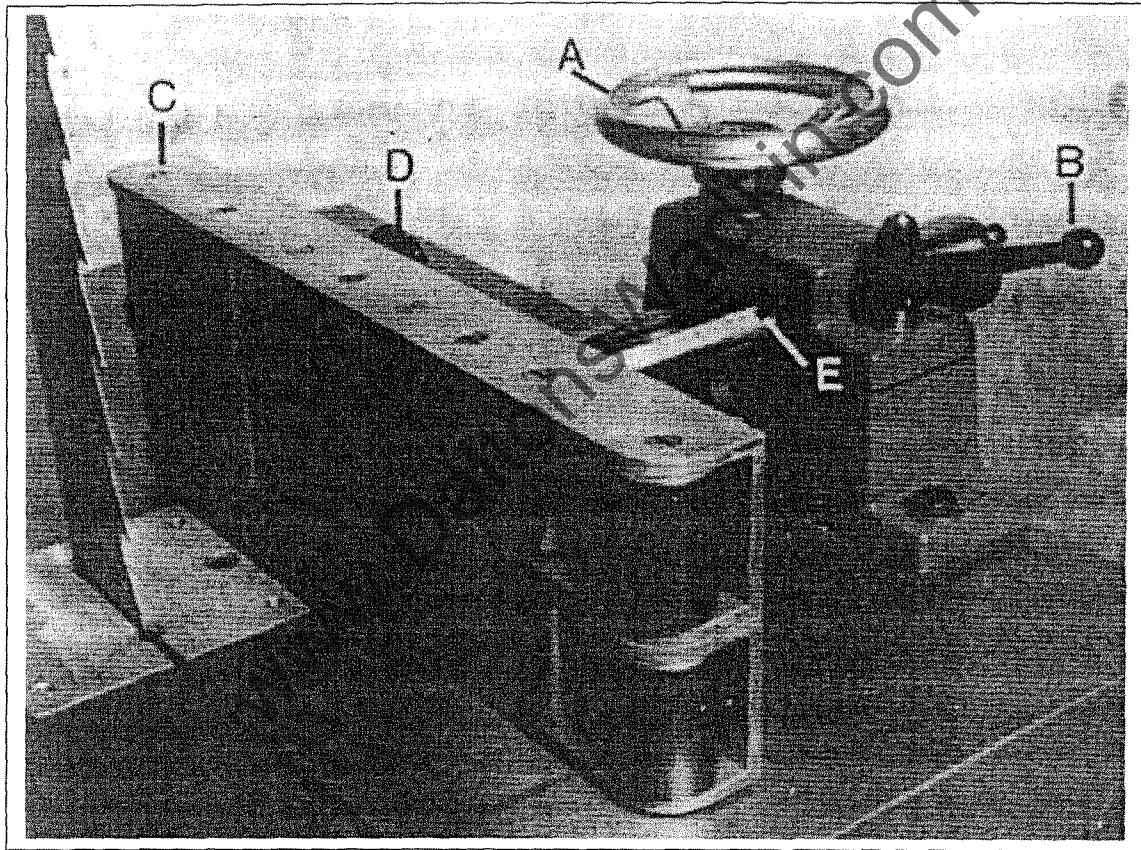
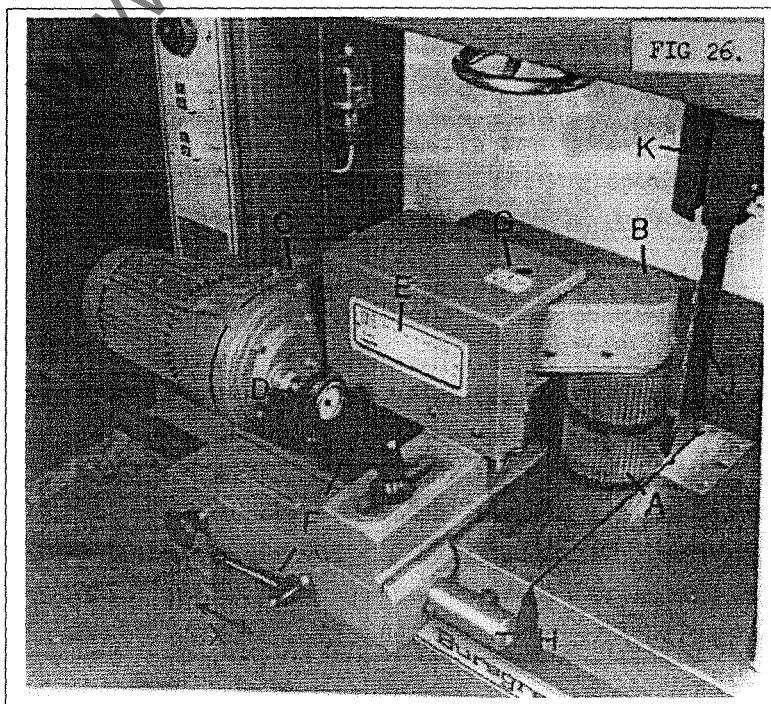

Fig 25
Fig 26
This unit has a blade to fence capacity of 230mm (9") and is adjusted by hand wheel 'A' (FIG 25) then locked in position by lock 'B' (FIG 25).
The roller bed is split by slackening 2 handles 'D' (FIG 25) and by removing top section 'C' (FIG 25), this allows top guide to be as close as practical to the stock when ripping small sections for increased accuracy.
The unit has a scale and adjustable pointer 'E' (FIG 25) for setting fence to desired stock size.
1. The variable drive unit 'C' (FIG 26) gives feed speeds ranging from 5-25 m/min. (15-80 ft/min) and speed adjustment is by handwheel 'D' (FIG 26), a dial is fitted to indicate feed speed.
2. Feed rollers 'A' (FIG 26) are mounted on a swing arm 'B' (FIG 26) to cater for up to 100mm (4") variance in stock width this affords for example:-
The feeder to the fence capacity is 385mm (15") and slides on bar 'H' (FIG 26) in axis 'X' then locked in desired position by handles 'F' (FIG 26)
**CHECK SWINGING ARM WILL NOT FOUL BLADE 'J' (FIG. 26) OR TOP SAW GUARD 'K' (FIG. 25) AFTER RE-POSITIONING FEED UNIT BEFORE OPERATING MACHINE.**
4. A plate 'E' (FIG. 26) is fitted to feeder as a guide to feed speeds relative to stock depth to be sawn, however the feed speed selected should take into consideration the type of stock to be sawn and condition of the blade.
5. A grease point 'G' (FIG. 26) is provided, this point should be greased on a weekly basis depending on usage of machine.